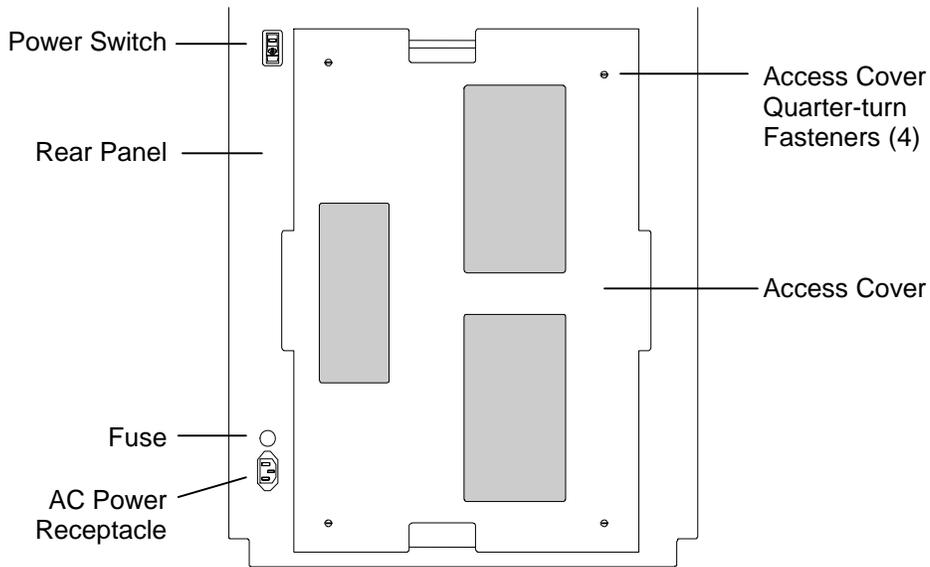
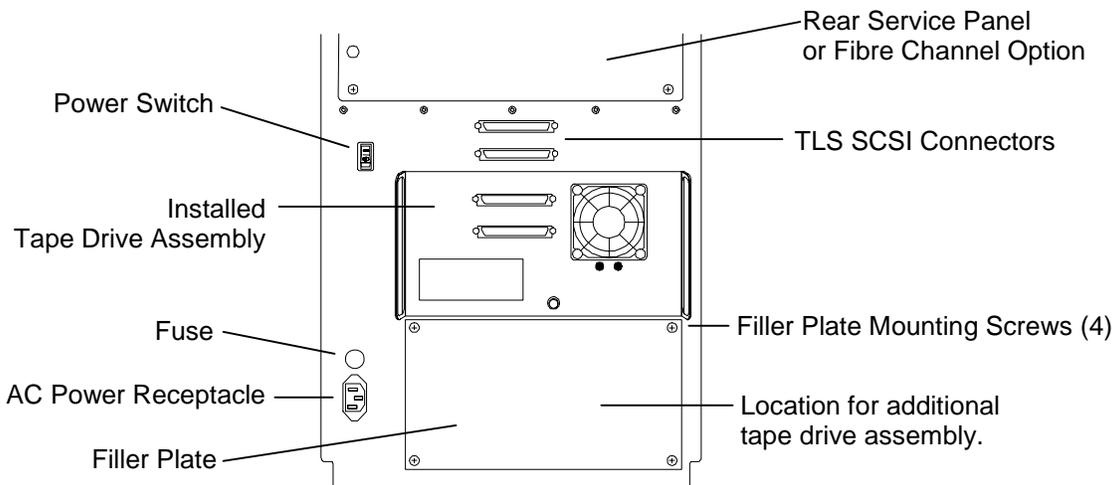

Figure 5-10 TLS Rear View – Model 6430 Shown
Figure 5-11 TLS Rear View – Model 6210 Shown
2. Locate the AC power switch (Figure 5-10 or Figure 5-11) and switch it to the ON position. The fans will start, and the carriage(s) will travel to its home (bottom) position. Then the unit will perform its power-up diagnostics and indicate the power up sequence steps on the display. The handler(s) will then scan the cartridge inventory.
1. For models 58xxx, 64xx, 68xxx, 84xx and 88xxx the access cover(s) must be removed to enter the Drive Bay area. Use a flat blade screwdriver to loosen all four of the quarter-turn fasteners and carefully remove the access cover(s) (Figure 5-10).
2. For each Tape Drive Assembly that is being installed, remove all four filler plate mounting screws, and then remove the filler plate (Figure 5-11).
After the SCSI connections have been completed on models 58xxx, 64xx, 68xxx, 84xx or 88xxx the access cover(s) must be replaced. Align the covers four quarter-turn fasteners with the corresponding receptacles on the rear panel of the TLS, then using a flat blade screwdriver tighten the fasteners to secure the cover (Figure 5-10).